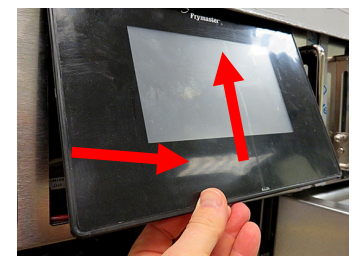

Figure 4
5. Lift the controller out from the bezel and The controller will slide up through the protective cage (see Figure 4).